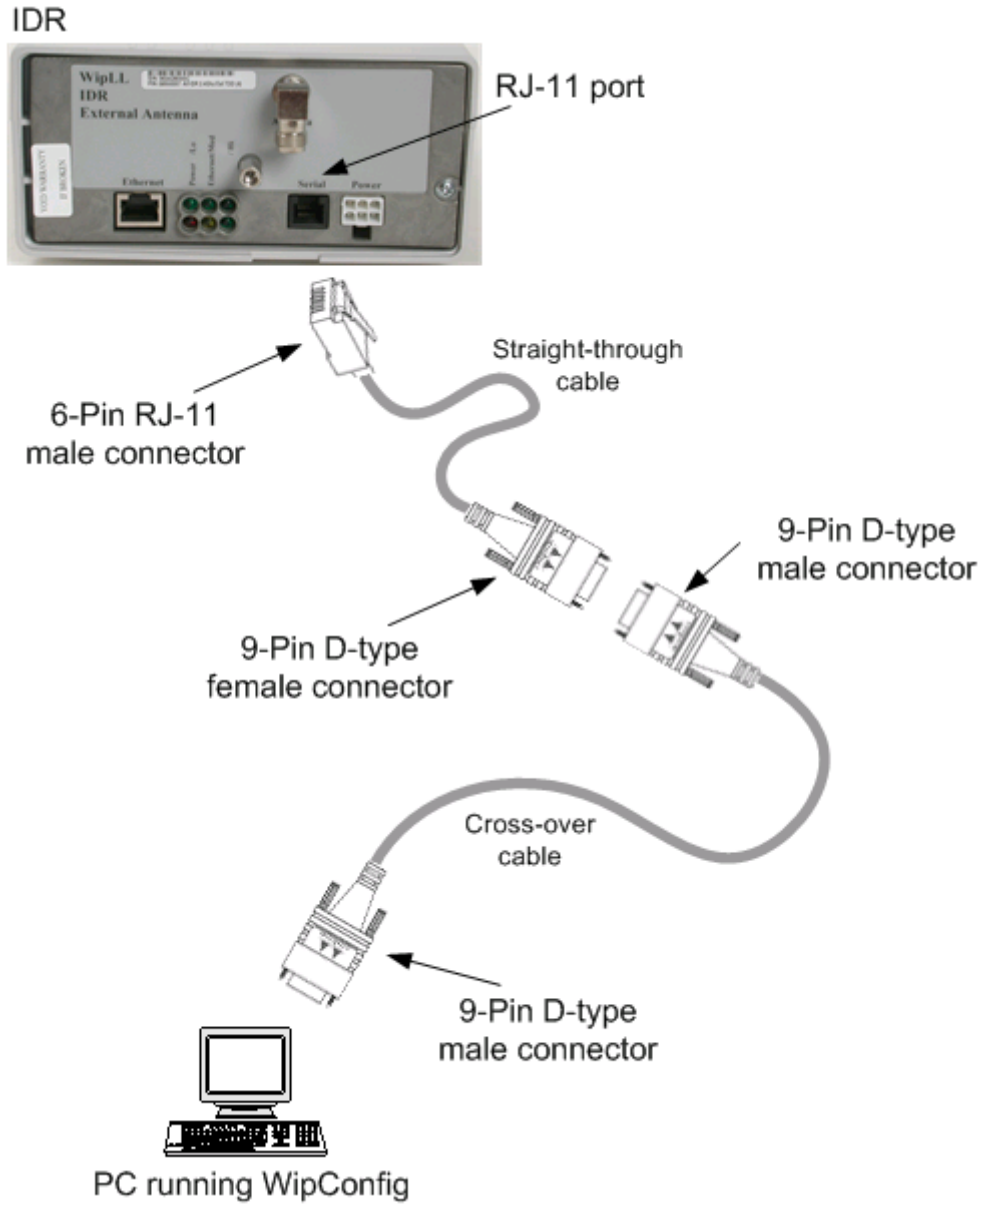

Figure 10-12: IDR-to-PC Serial Cable Connections
1. Connect the **6-Pin RJ-11** connector to the IDR's RJ-11 port (labeled **Serial**) located on the IDR's front panel (see Figure 10-12).
2. Connect the **9-Pin D-type female** connector, at the other end of the straight-through cable, to the **9-Pin D-type male** connector of the cross-over cable (see Figure 10-12).
3. Connect the **9-Pin D-type male** connector, at the other end of the cross-over cable, to the PC's serial port (see Figure 10-12).